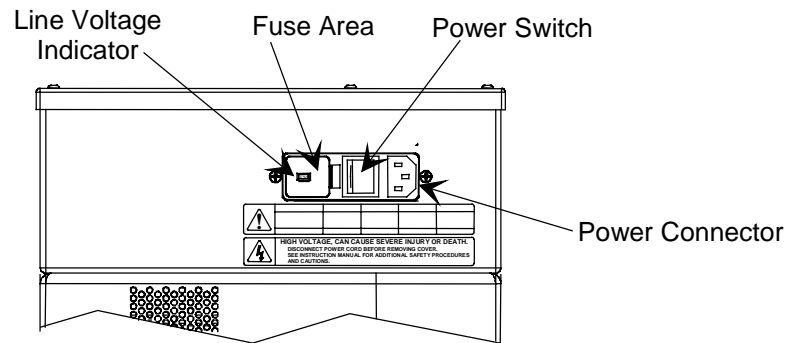

Figure 7: Components of the Power Module
Refer to Figure 7 for the location of the power switch.
3. Use a small flat head screwdriver to flex the fuse holder clip so that the holder pops up, then remove the holder. Refer to Figure 7 for the location of the fuse holder.